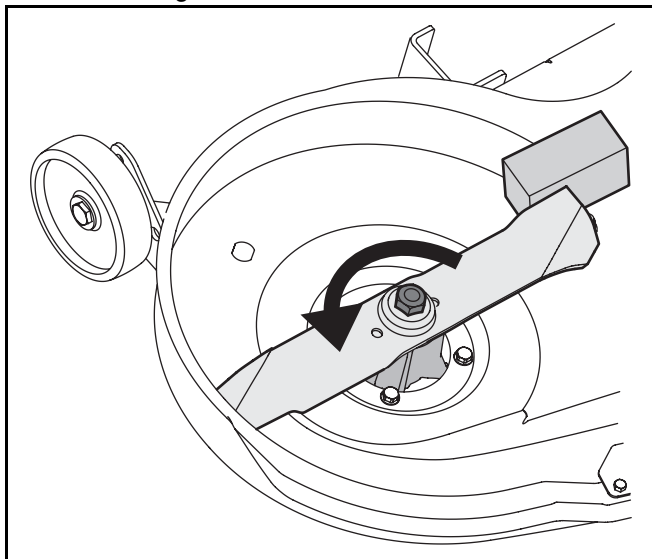

Figure 2
2. Place a block of wood between the deck housing baffle and the cutting blade to act as a stabilizer, then use a 15/16" wrench to remove the hex flange nut that secures each blade to its spindle assembly. Refer to Figure 2.